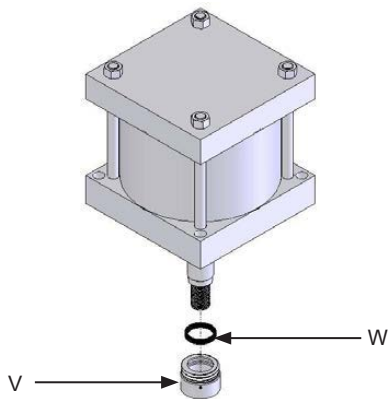

Figure 32. Removing the Bushing Assembly and Seal
Follow STEP 4C, a) exactly, only BUSHING ASSEMBLY (V) will be in the place of GLAND PLATE (U), GLAND SCREWS (T), and O-RING (X), as shown in figure 32.